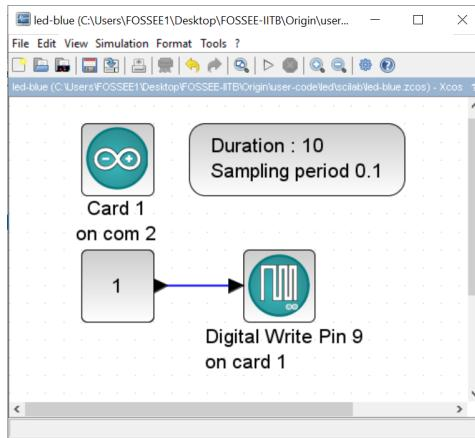

Figure 4.6: Turning the blue LED on through Xcos. This is what one sees when `Origin/user-code/led/scilab/led-blue.zcos`, see Footnote 2 on page 2 is invoked.
1. First we will see how to turn on the blue LED. When the file required for this experiment is invoked, one gets the GUI as in Fig. 4.6. In the caption of this figure, one can see where to locate the file.